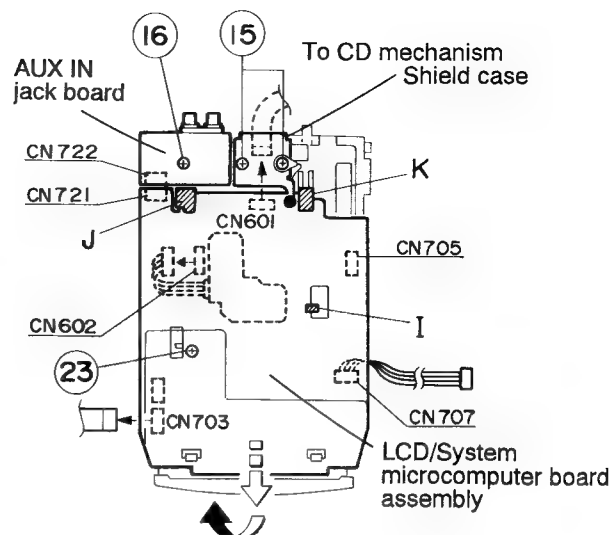

Fig. 5-16
◆ Removing the LCD/System microcomputer and AUX IN jack boards (Figs. 5-16 and 5-17).
1. Remove the soldered section of the shield case from the rear of the CD traverse mechanism and remove two screws ⑮ (Fig. 5-16).
2. Remove the screw ⑮ securing the AUX IN jack board. Then, remove connector CN722 from connector CN721 on the LCD/System microcomputer board (Fig. 5-16).
5. Release three claws (I, J, K) securing the LCD/System microcomputer board and shift and lift up the whole board toward you for removal (Fig. 5-16).